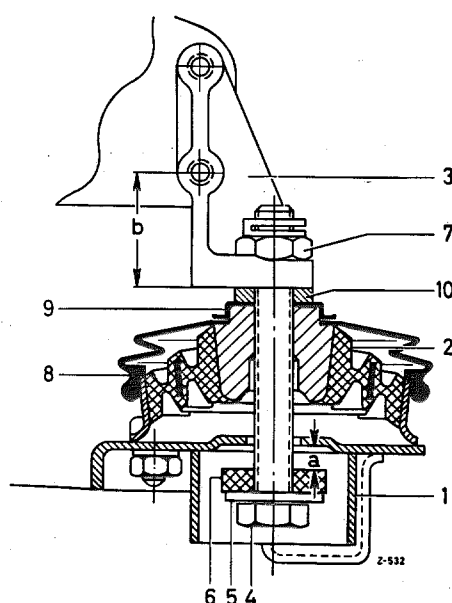

Fig. 24 — 1/2
10. Screw the self-locking nut (7) onto the hexagon bolt (4) and tighten the nut, holding the hexagon bolt (4) steady with an SW 19 box wrench.
Note: The diameter of the bore for the hexagon bolt (4) in the cross member of the front axle support has been increased from 17 mm to 20 mm (see Fig. 24—1/1). If, when the engine sinks heavily into the suspension, the hexagon bolt strikes against the cross member, the bore can be subsequently increased to 20 mm \varnothing .
When harder rubber mountings are installed (see Job No. 24 — 1, para 5, Note) for the rear engine suspension, the engine will be too high at the rear if the engine support (3) which was standard up to now is used (Fig. 24 — 1/2). To correct this, an engine support which is 5 mm shorter is at present being used: